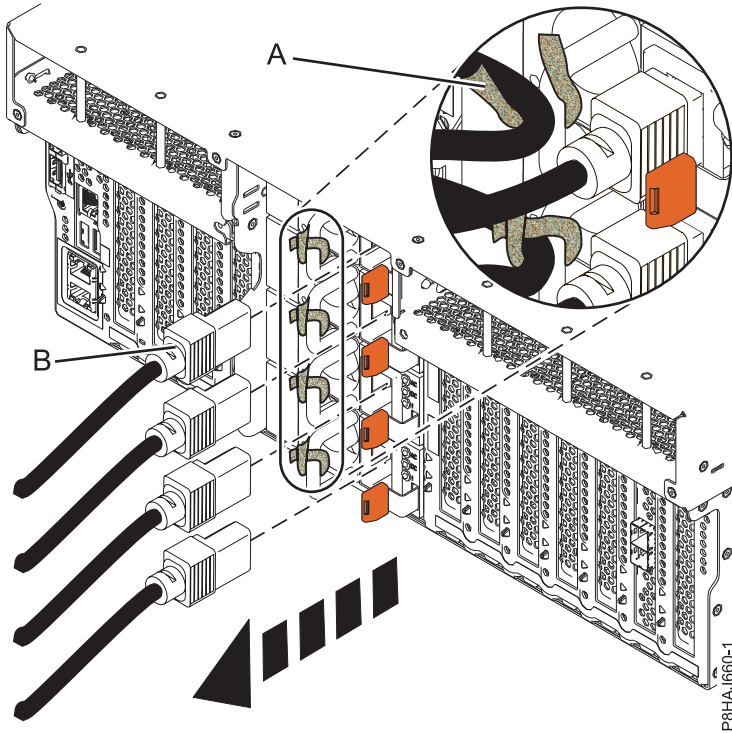
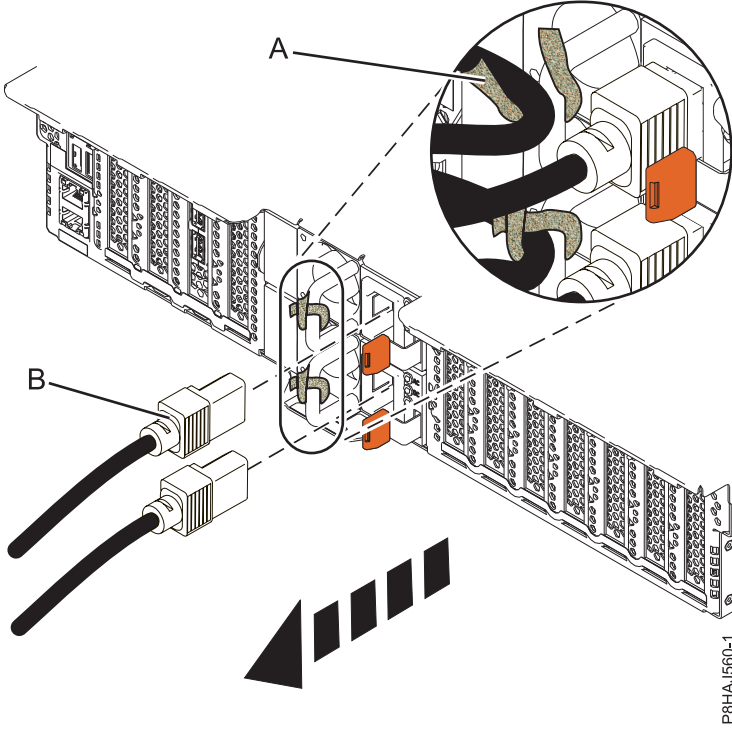
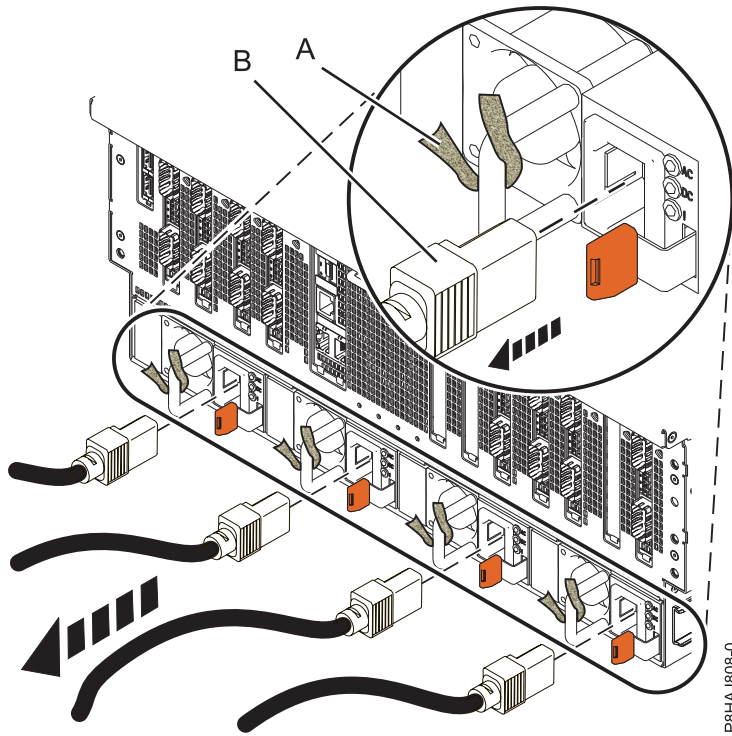

Figure 35. Removing the power cords from an 8247-42L, 8286-41A, or 8286-42A system
Figure 36. Removing the power cords from an 5148-21L, 5148-22L, 8247-21L, 8247-22L, 8284-21A, or 8284-22A system
Figure 37. Removing the power cords from an 8408-44E or 8408-E8E system
3. Disconnect the power cords (B) from the system unit. See Figure 35 on page 50, Figure 36 on page 50, or Figure 37 on page 51 or depending on the type of your system.